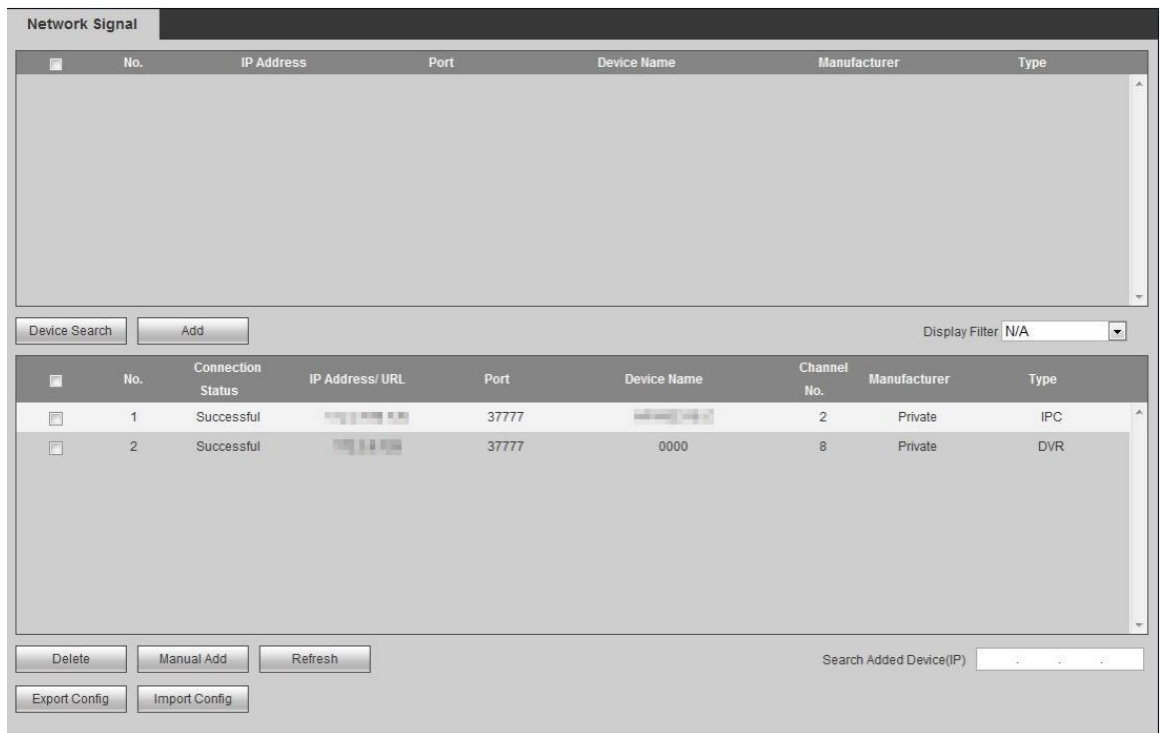

Figure 3-11
Step 1 Click . The system displays "Network Signal" interface, as shown in Figure 3-11.